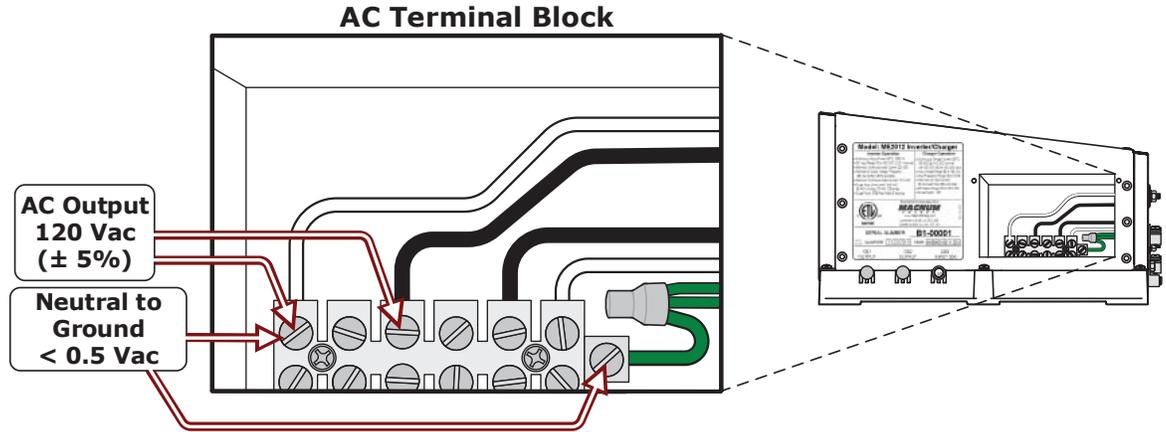

Figure 2-21, AC Voltage Checks (Models with terminal block)
5. Check the AC output voltage of the inverter by connecting an AC voltmeter to the output terminals (see Figure 2-21) and verify the correct output voltages.